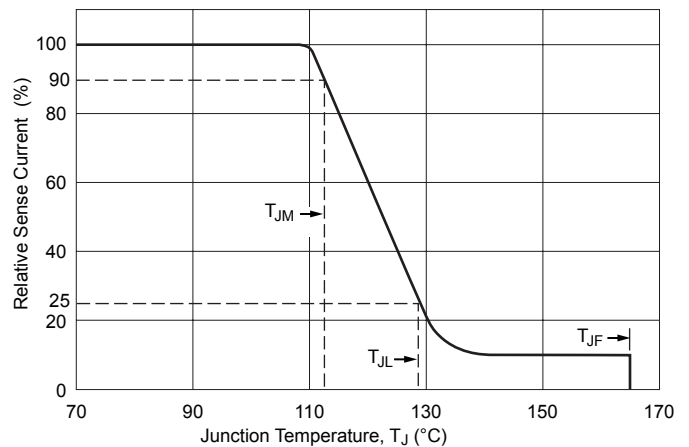

Figure 2. Temperature monitor current reduction.
**Temperature Monitor** A temperature monitor function, included in the A6261, reduces the LED current as the silicon junction temperature of the A6261 increases (see figure 2). By mounting the A6261 on the same thermal substrate as the LEDs, this feature can also be used to limit the dissipation of the LEDs. As the junction temperature of the A6261 increases, the regulated current level is reduced, reducing the dissipated power in the